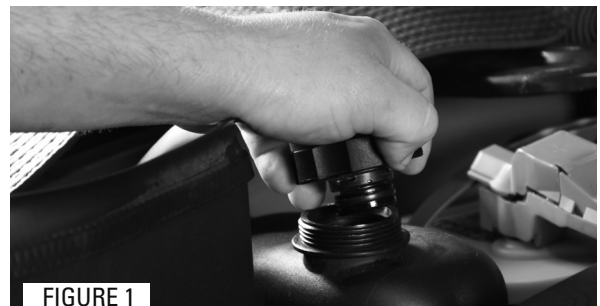

FIGURE 1
- 1 Remove radiator cap to relieve excess pressure in coolant system. (Figure 1)